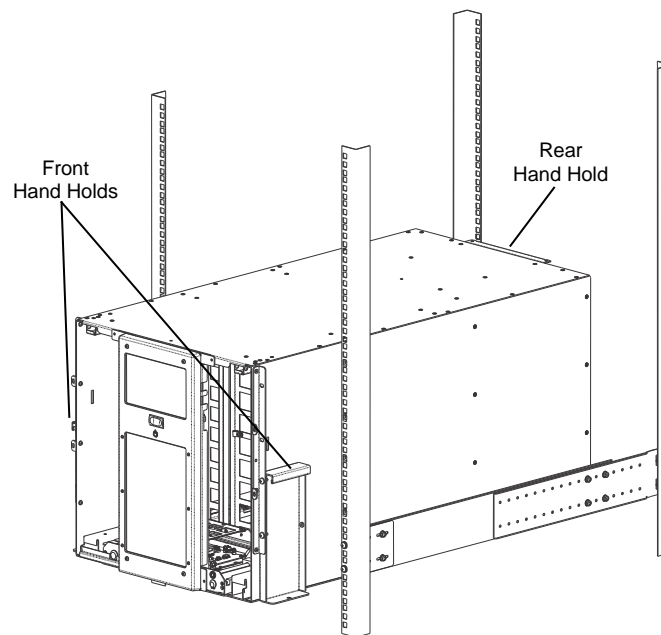

Figure 7-23 Library being inserted into the Rack
15. Have two or more people lift the library by grabbing the front and rear hand holds as seen in Figure 7-23. Place it between the rack posts and slide it back on the rack rails until about 8 inches remains sticking out the front of the rack posts.